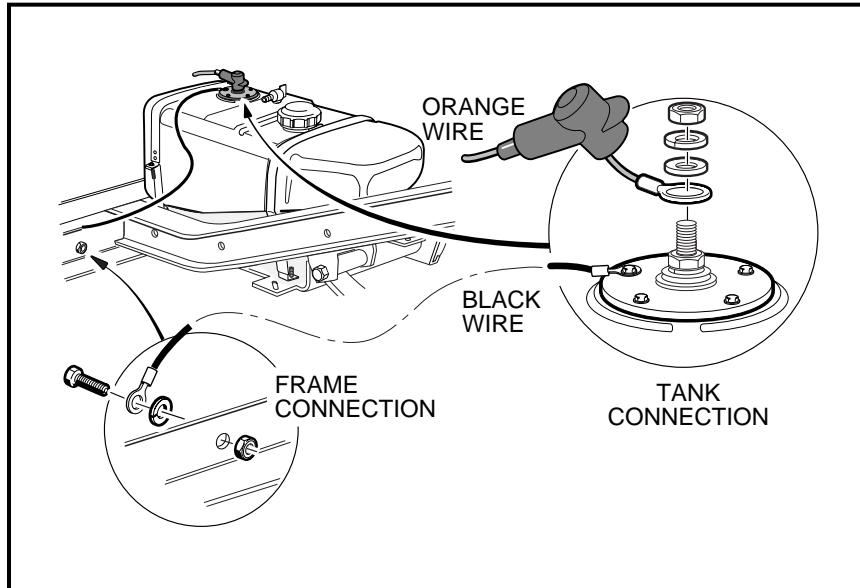

Figure 14-18 Fuel Level Sending Unit
8. Disconnect the black wire and orange wire from the fuel level sending unit on the tank (**Figure 14-18, Page 14-25**). Do NOT remove the lower nut on the center stud of the sending unit. **See following WARNING.**
6. Connect the black wire from the fuel gauge to one of the fuel level sending unit screws. Connect the orange wire to the center stud (**Figure 14-18, Page 14-25**) and install the flat washer, lock washer and nut. Tighten to 18 in-lb (2.0 N·m).
7. Slide the rubber boot over the stud (**Figure 14-18, Page 14-25**).